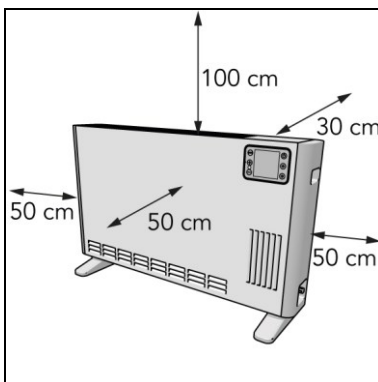

Figure 10
5. Place the device with a minimum clearance distance (Figure 10) of: